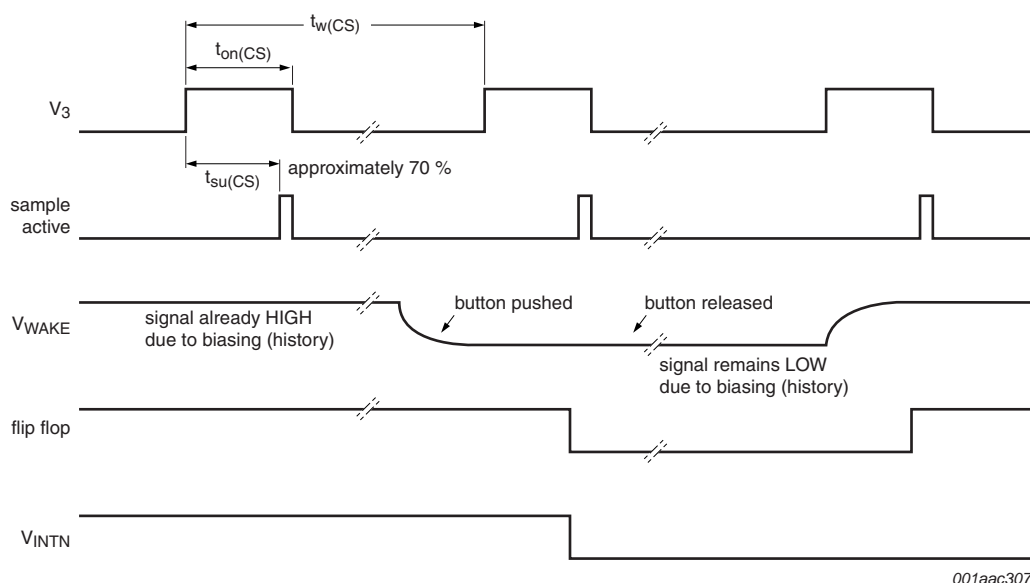

Fig 14. Pin WAKE, cyclic sampling via V3
- Sampling synchronized to the cyclic behavior of V3 if the bit is cleared; see Figure 14. This is to save bias current within the external switches in low-power operation. Two repetition times are possible, 16 ms and 32 ms.